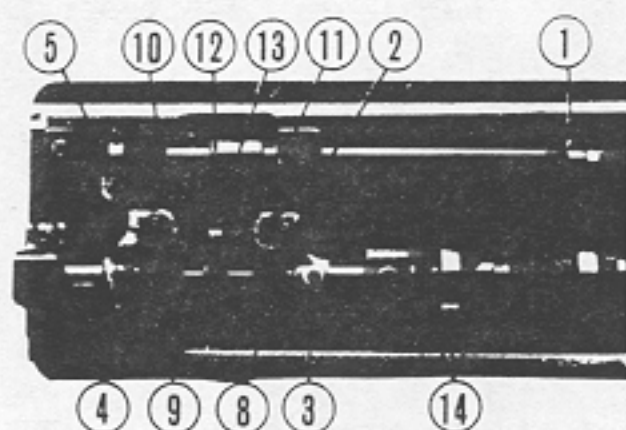

Fig. 13
Next, adjust the position of the feed dog so that the needle comes to the center or a little nearer the needle hole of the feed dog. To adjust to this position, loosen the clamp screw of the feed rocker shaft crank (Fig. 13 ①).
Turn the hand wheel over towards you until the point of the sewing hook comes to the center of the needle. Loosen the four screws (Fig. 13 ②③④⑤) underneath the bed of the machine and move the hook saddle to the right or left, as may be required, until the point of the hook is as close to the needle as possible without striking it, then securely tighten the four screws.
When the timing of the needle bar and the point of hook is out of alignment, first, turn the hand wheel towards you, set the height of the needle bar as above, loosen the 2 screws of the gears (Fig. 13 ⑧⑨), move the gears to the right or left, rotate the sewing hook and match it with the center of the needle and firmly tighten the 2 set screws. The sewing hook is firmly fixed in to the small gears (Fig. 13 ⑩⑪).
When an unusual strain such as needle breakage or entangling of thread into the sewing hook occurs during the running of the machine, the safety clutch (Fig. 13 ⑫) springs into action and automatically stops the rotation of the hook.
Loosen 2 screws of the small gears (Fig. 13 (10) (11)) which are attached to the bottom surface of the bed and by lightly tapping the end of the hook shaft by a screw driver, take out the sewing hook.
Remove the throat plate, clean the lint and dust from between the feed points and replace the throat plate. Tilt the machine, turn the hand wheel towards you until the feed dog is at the highest position. Loosen the screw in the feed driving cam fork (Fig. 13 (12)), raise or lower the feed bar (Fig. 13 (13)), as may be required, and retighten the screw.